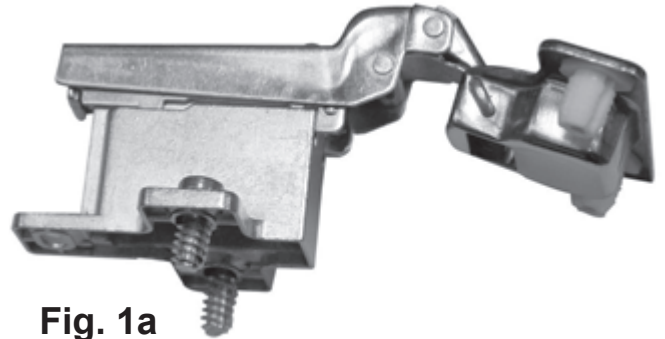
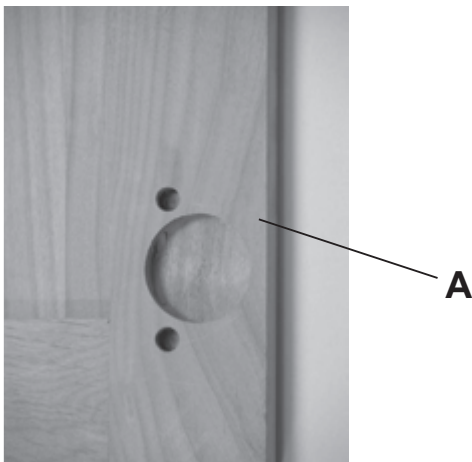

Fig. 1a
Fig. 2
2. There are pre-drilled holes in the door as shown in Figure 1a. This is where you will be inserting the hinge part of the assembly. Insert the Hinge (D) assembly that has the plastic knobs into the pre-drilled holes in the bottoms and tops of the Doors (A). See Figures 2 and 2a. **You must place both Hinges into the Door prior to attaching to bookcase.**